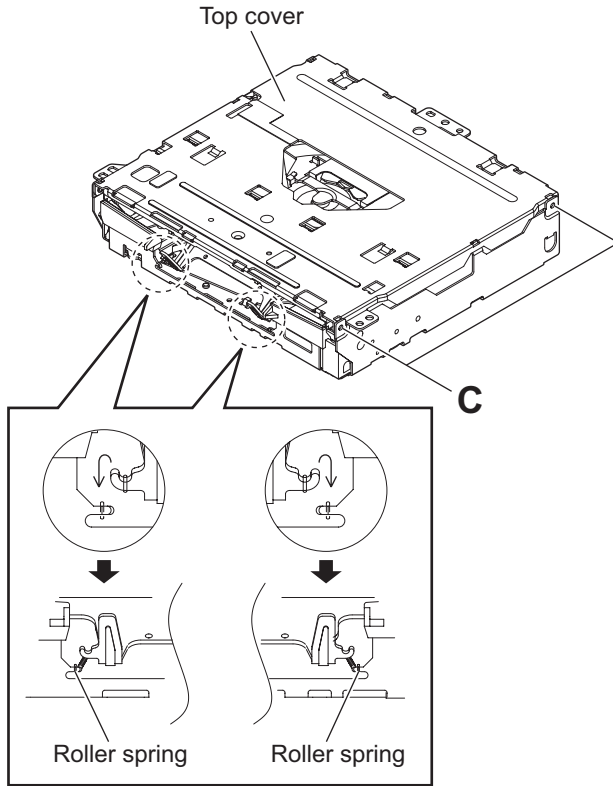

Fig.3
3.2.2 Removing the top cover (See Fig.3 to 5)
- (1) From the front side of the CD MECHANISM assembly, change the hook position of the two roller springs. (See Fig.3.)
- (2) From the side of the CD MECHANISM assembly, remove the six screws **C** attaching the top cover. (See Fig.3 and 4.)